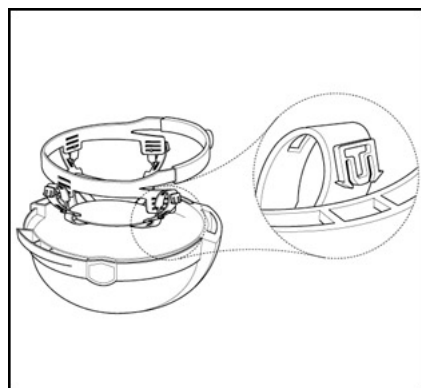

Fig. 2: Removing the Complete Head Suspension Assembly
- Remove the suspension subassembly by pulling out the four mounting clips that hold it into the bottom edge of the headgear (Fig. 2).